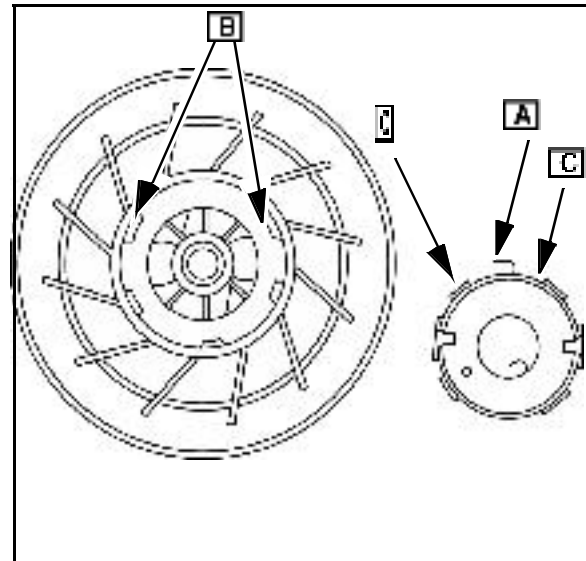

Fig. 16
1. Place spring and cup in pulley, with outer end of spring (A) between two wide spaced lugs (B) in pulley and spring cup projections ([C] Fig. 16) next to the two wide spaced lugs.